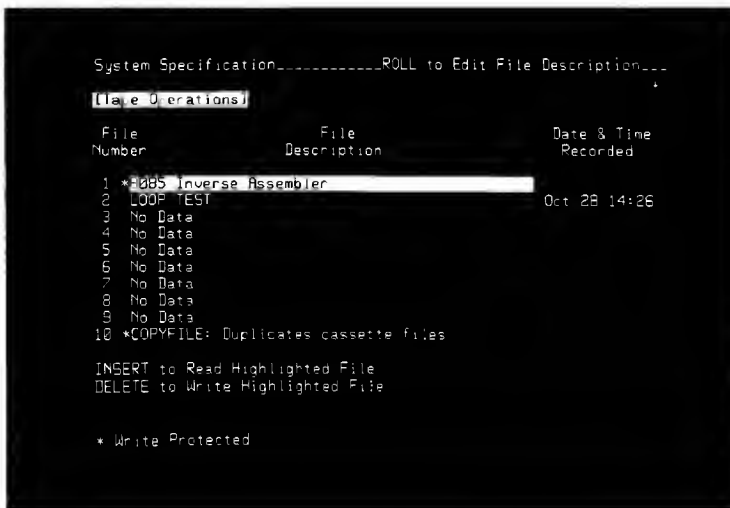

Figure 3-35. Tape Operations Menu
6. Press the NEXT[] key to obtain the [Tape Operations] menu. The analyzer will only display this menu when it has the tape memory accessory connected. See figure 3-35.
Figure 3-35 shows all of the possible entries for the [Tape Operations] menu. File 1 is an HP-supplied inverse-assembler file. File 2 is a user-generated file with the date and time of its creation. File 10 is a copyfile; it allows copying of write protected files from one tape to another. The remaining files have no data stored.